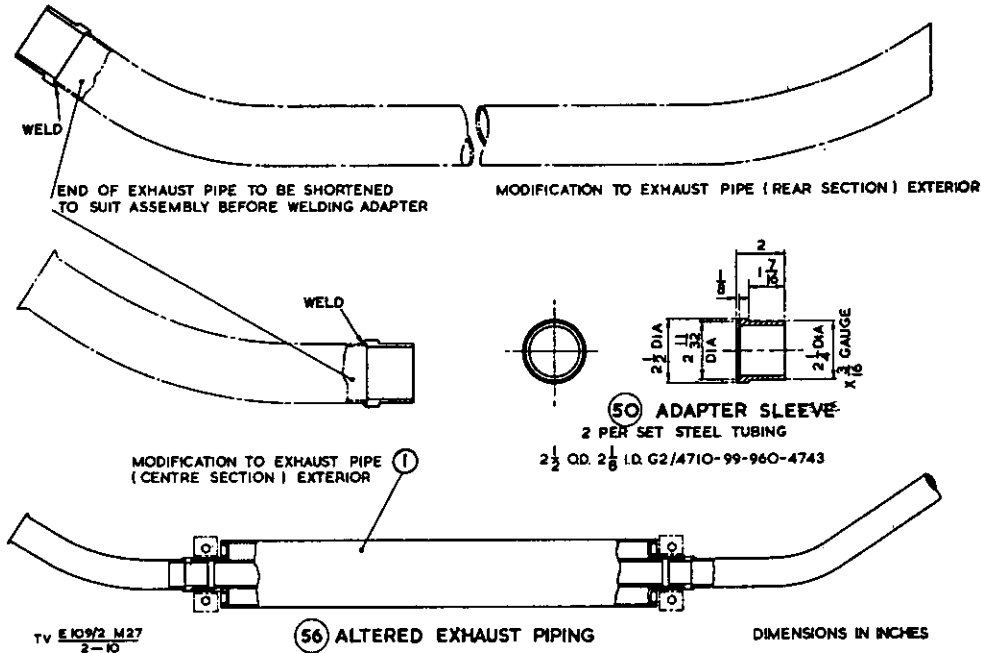

Fig 10 - Adapter sleeve and exhaust piping
- g. Weld new adapter sleeves (item 50) to shortened ends of front and rear exhaust pipes (see Fig 10).